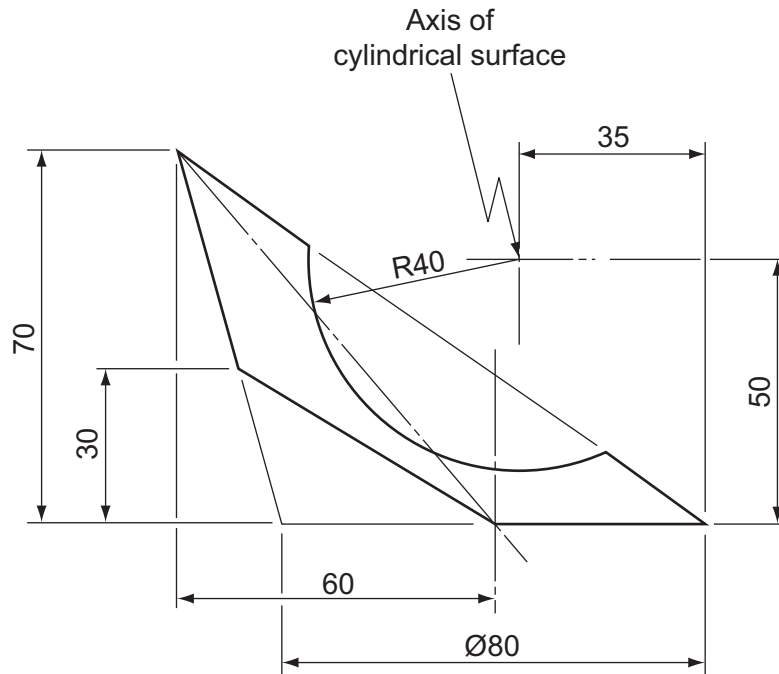

Fig. 4
- 4 Fig. 4 shows an elevation of an oblique thin sheet-metal cone cut by an inclined plane and a cylindrical surface.